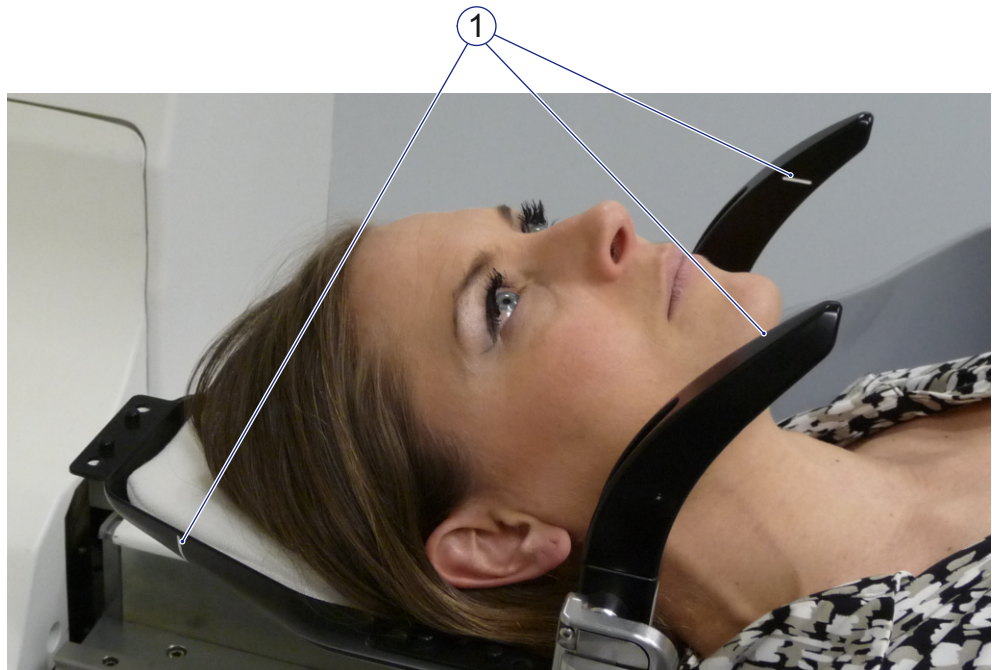

Figure 5.4 CBCT field-of-view indication
- 10 Put the patient down on the couch mattress and the head support. Think about the target and the field-of-view of the CBCT when you put the patient in position. The limits of the field-of-view in Z and Y direction are shown by white marks (1) on the mask adapter, see Figure 5.4.